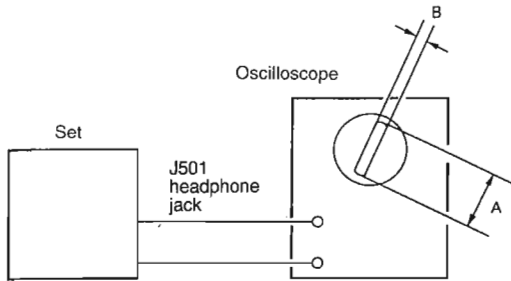

Fig. 6
**Adjustment of recorder/player head azimuth (See Figs. 6 and 7)**